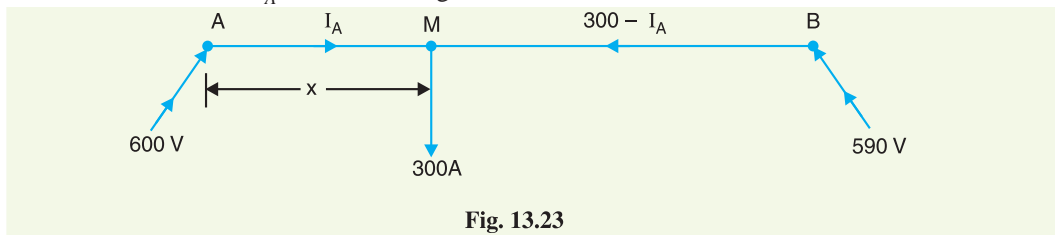

Fig. 13.23
**Solution.** The single line diagram is shown in Fig. 13.23 where substation  $A$  is at 600 V and substation  $B$  at 590 V. Suppose that minimum potential occurs at point  $M$  at a distance  $x$  km from the substation  $A$ . Let  $I_A$  amperes be the current supplied by the sub-station  $A$ . Then current supplied by sub-station  $B$  is  $300 - I_A$  as shown in Fig 13.23.